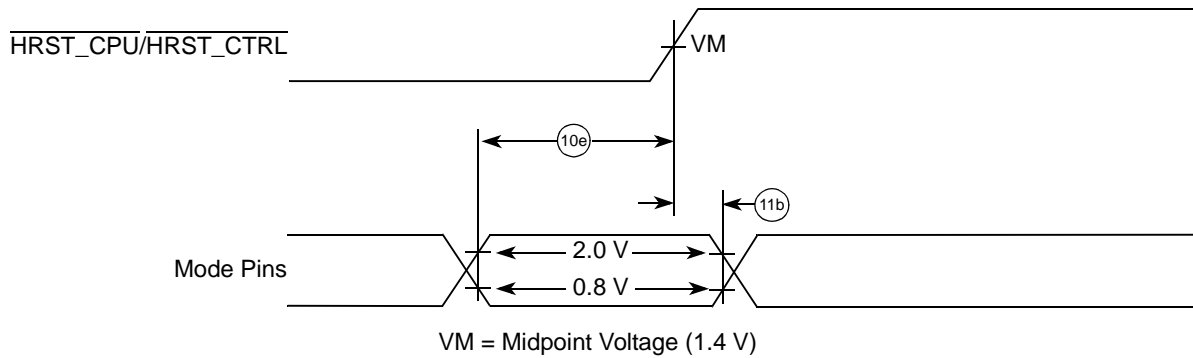

Figure 13. Input Timing Diagram for Mode Select Signals
- All mode select input signals specifications are measured from the TTL level (0.8 or 2.0 V) of the signal in question to the $VM = 1.4$ V of the rising edge of the $\overline{\text{HRST_CPU/HRST_CTRL}}$ signal. See Figure 13.